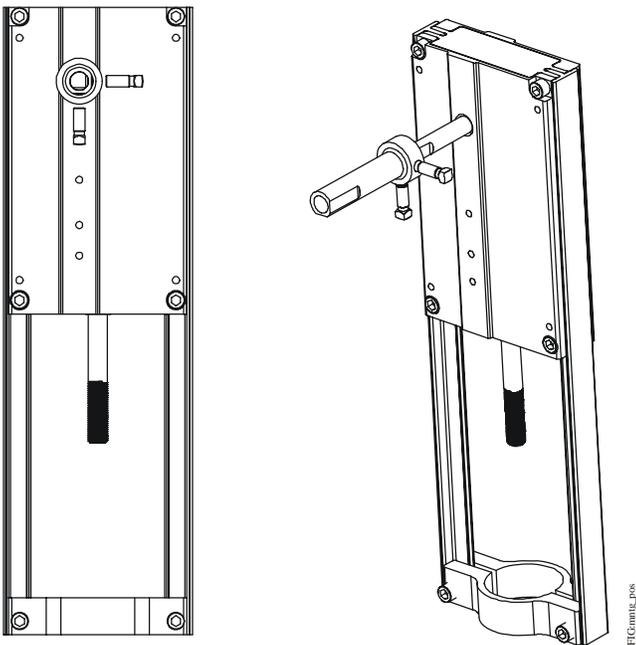

Figure 6: Proper Mounting Position for Shaft Extension
9. For the M9000-320 kit used with the M9220 Series actuators, install the shaft extension onto the input shaft of the valve linkage. Ensure that the set screws located on the shaft extension are oriented perpendicular to the flat surfaces on the input shaft. (See Figure 6.) To reduce friction, ensure that the shaft extension and the seal assembly are not in contact. A gap of no more than 1/8 in. is recommended between these two components.